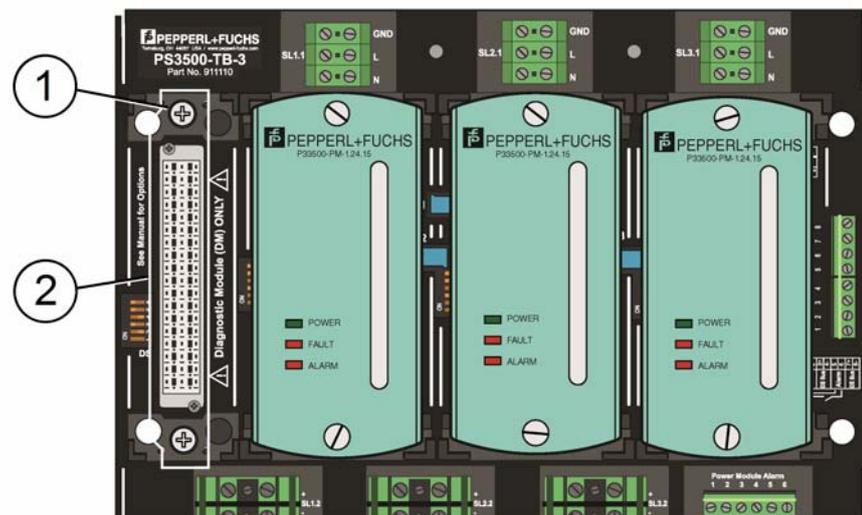

Figure 4.1 Connector Cover Removal
1. Refer to Figure 4.1. Remove the two (2) screws (item 1) securing the clear plastic protective cover (item 2) to the connector. Discard the screws and protective cover.